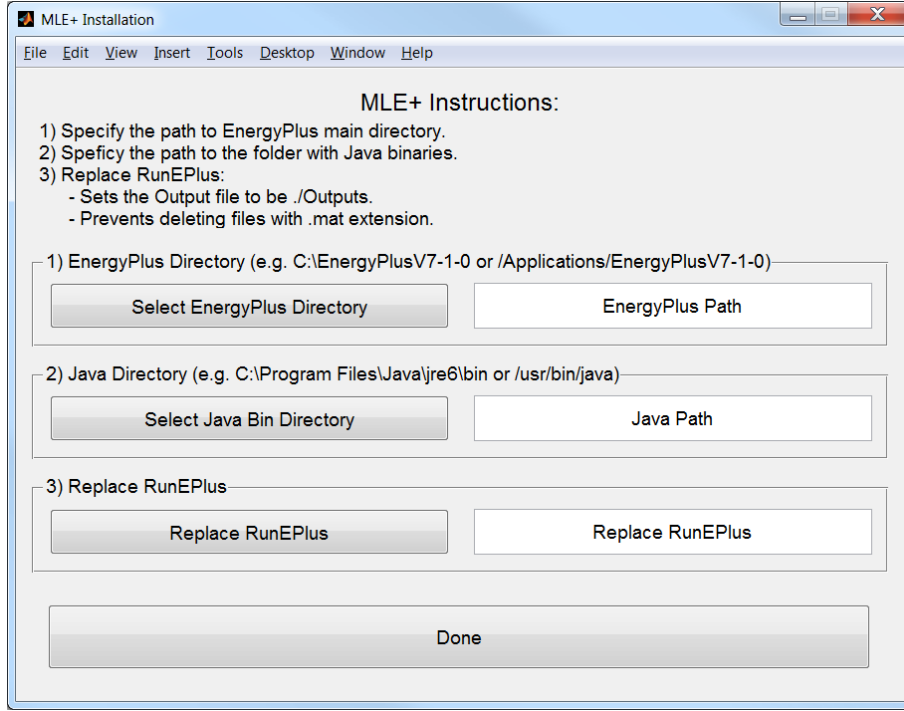

Figure 2: Windows MLE+ Installation Screen.
1. This will install the GUI Layout Toolbox and add the necessary paths to the Matlab environment automatically. After that, the installation screen in Figure 2 will appear. Here you need to specify the paths to EnergyPlus main Directory and the path to the folder with Java binaries. Also, this will replace your `RunEPlus.batch` file (in Windows).